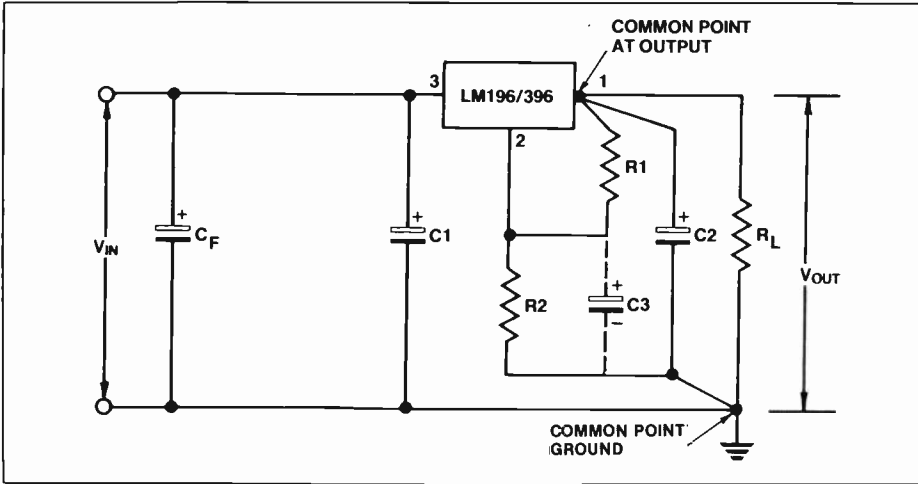

Fig. 5. Basic regulator, $V_{out} = 1.25 (R1 + R2)/R1$.
2. directly to the output of the regulator as shown in Figure 5.
Components in Figure 5